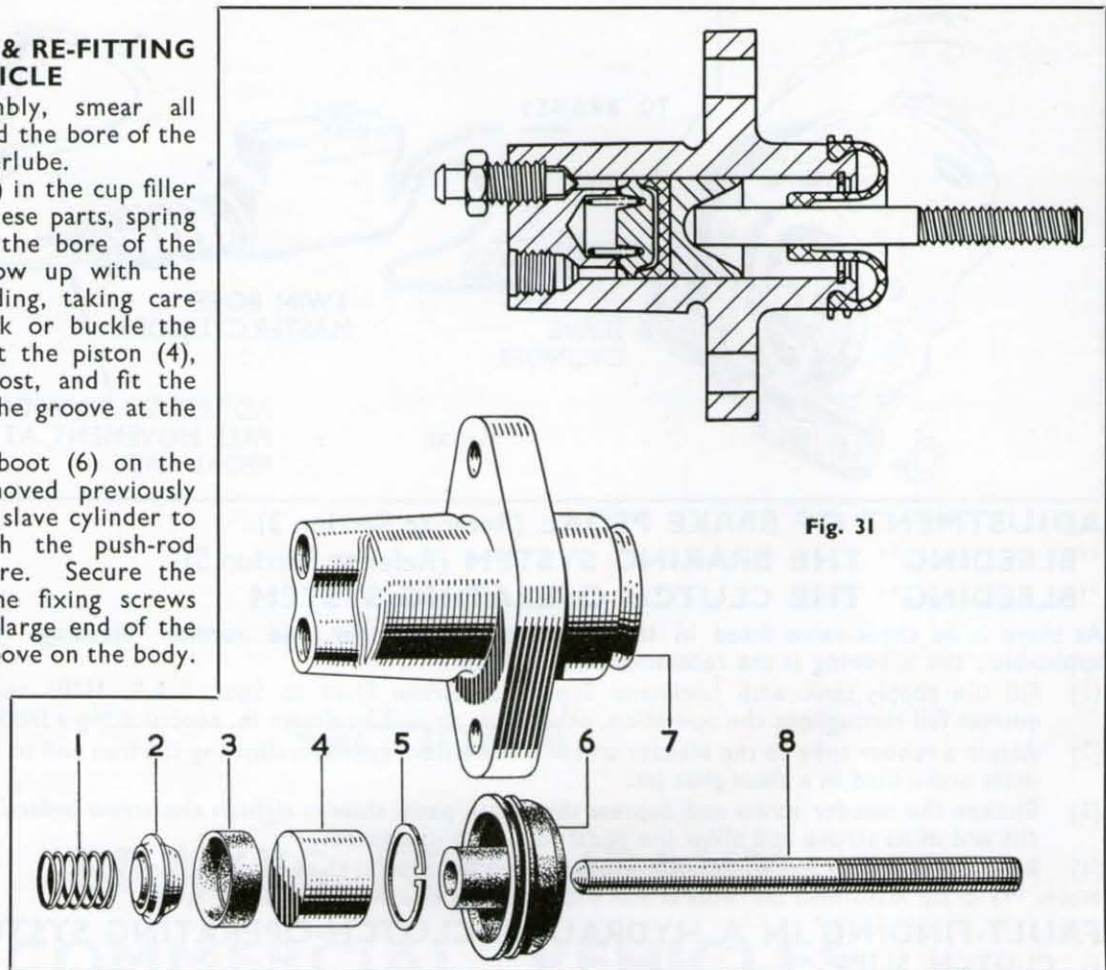

Fig. 31
The clutch slave cylinder (refer to Fig. 31) consists of a body (7) which incorporates two threaded connections and is bored to accommodate a piston (4) against the inner face of which a rubber cup (3) is loaded by a cup filler (2) and a spring (1); the travel of the piston is limited by a circlip (5) fitted in a groove at the end of the bore. A rubber boot (6), through which a push-rod passes, is fitted on to the body to prevent the intrusion of dirt or moisture.